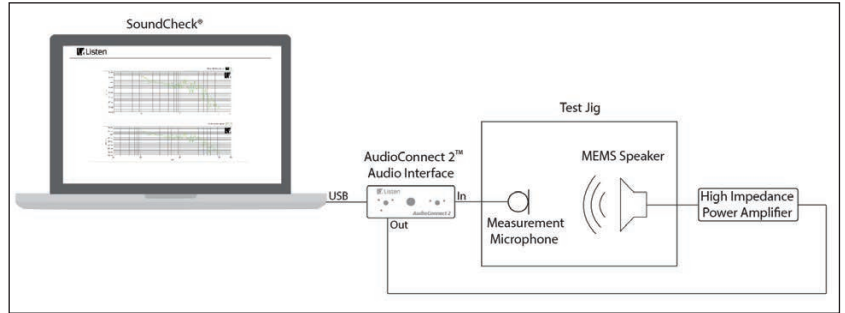

Figure 2: Test configuration for MEMS driver measurement.
**Figure 2** shows a schematic diagram of the test configuration used to measure a MEMS speaker, and **Photo 1** shows the test jig, coupler, and charge amplifier in more detail.